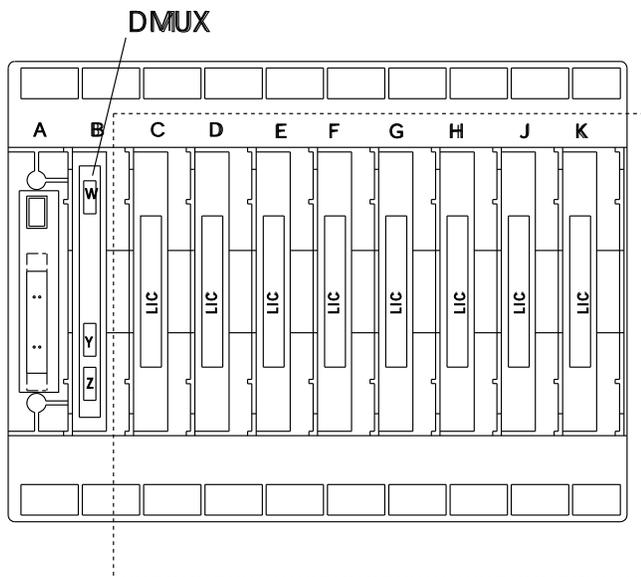

Figure 4-48. DMUX Location
4. For the DMUX location, refer to Figure 4-48 on page 4-40. The thumb screw color of the DMUX is white.